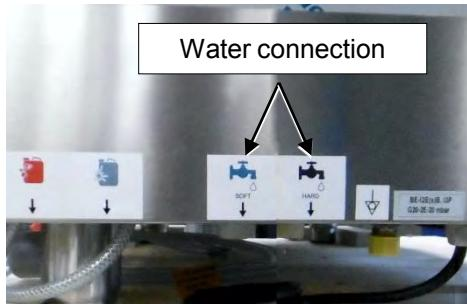

Fig. 57: Water connection
14. Connections for hard and soft water on both devices (Fig. 57).